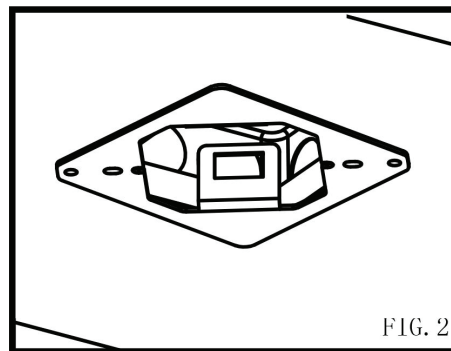

FIG. 2
3. Unscrew the two large screws on the top of the fixture and use them to attach the torsion springs to the fixture in either the 5" or 6" position. (fig. 2)